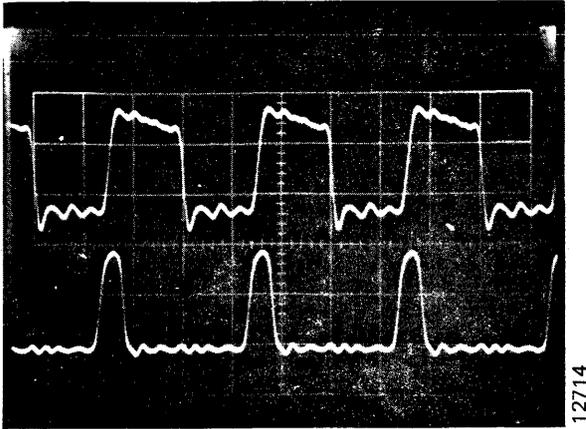

Figure 3-11. Reference One-Shot Adjustment Waveform
9. Reset the scope sweep rate to  $0.5 \mu\text{sec/div}$  and turn on the 10X multiplier. A display like the one in Figure 3-11 should be obtained ( $50 \text{ ns/div}$ ). Roll the display to the right, and count off four cycles of the Channel 1 waveform. Rolling the display to the left, center the positive-going leading edge of the fourth cycle on the graticule center line.
shift and should be locked to 155 nanoseconds. The Channel 2 waveform should also be locked and stable, although it may be off one-half cycle in phase from the position shown in Figure 3-11.